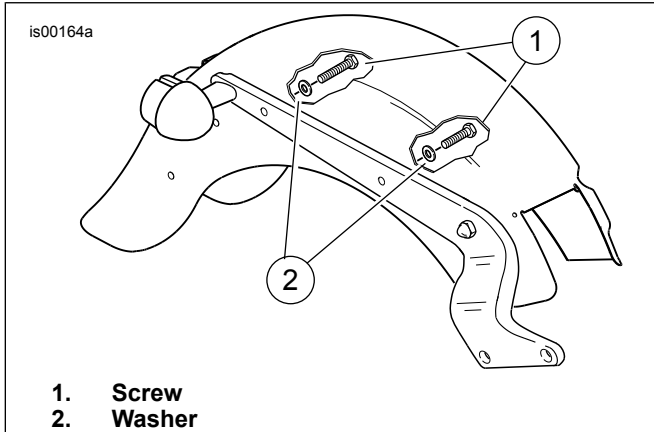

Figure 1. Remove Fender Support Hardware (FLST)
- See Figure 1. Remove and discard stock screws (1) and washers (2) from fender support.